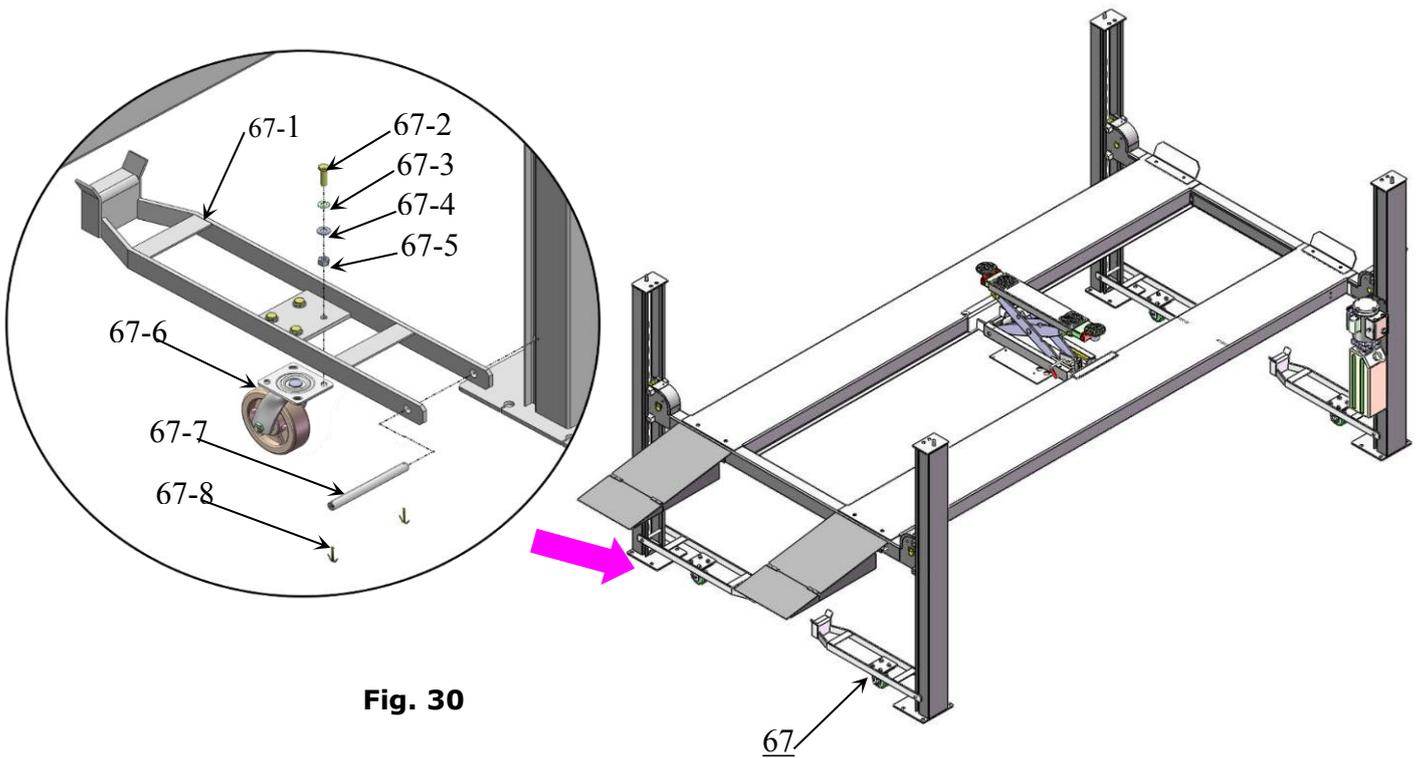

Fig. 30
1. Install optional caster kits or Rolling jack (See Fig. 30)